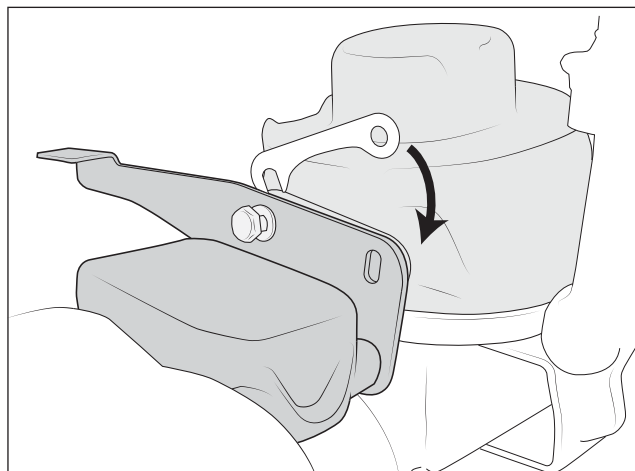

Figure 24
- g. There may be a gap between the bumps top and coil spring mount. Use the supplied shims to shim as shown (fig. 24).